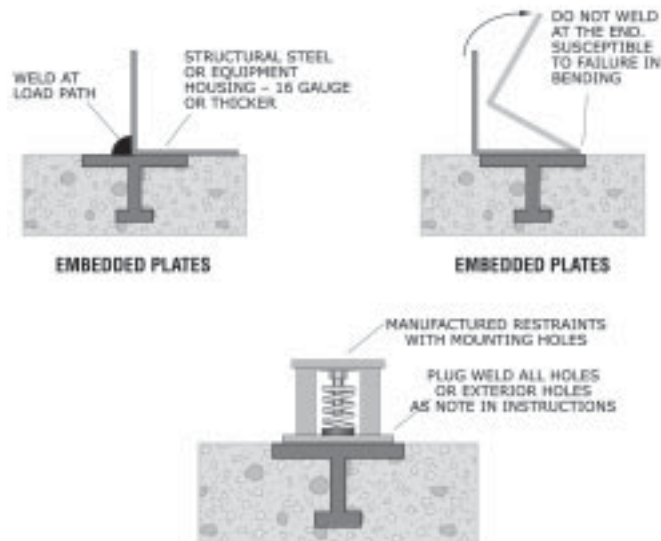

Figure 148: Welding to embedded plates.
**Attaching equipment to embedded plates:** Plates are embedded in the concrete during the floor or wall pour. Plates are firmly held in place while the concrete is poured to maintain proper alignment and position. The size and location of the plate can be determined from approved construction documents. See Figure 148 (below) for weld locations.